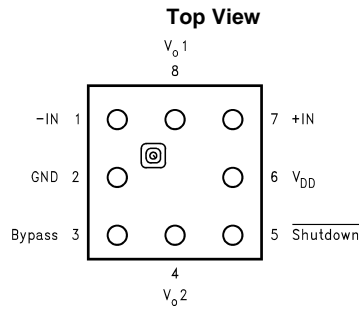

Figure 1. 8 Bump DSBGA Package
- PSRR at 217Hz, VDD = 5V (Fig. 1): 62dB(typ.)